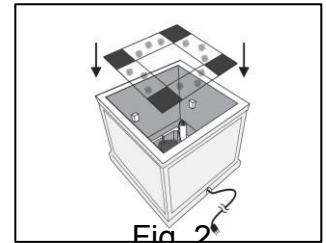

Fig. 2
2. Drop in Splash Guard onto Bottom Basin. Fig. 2.